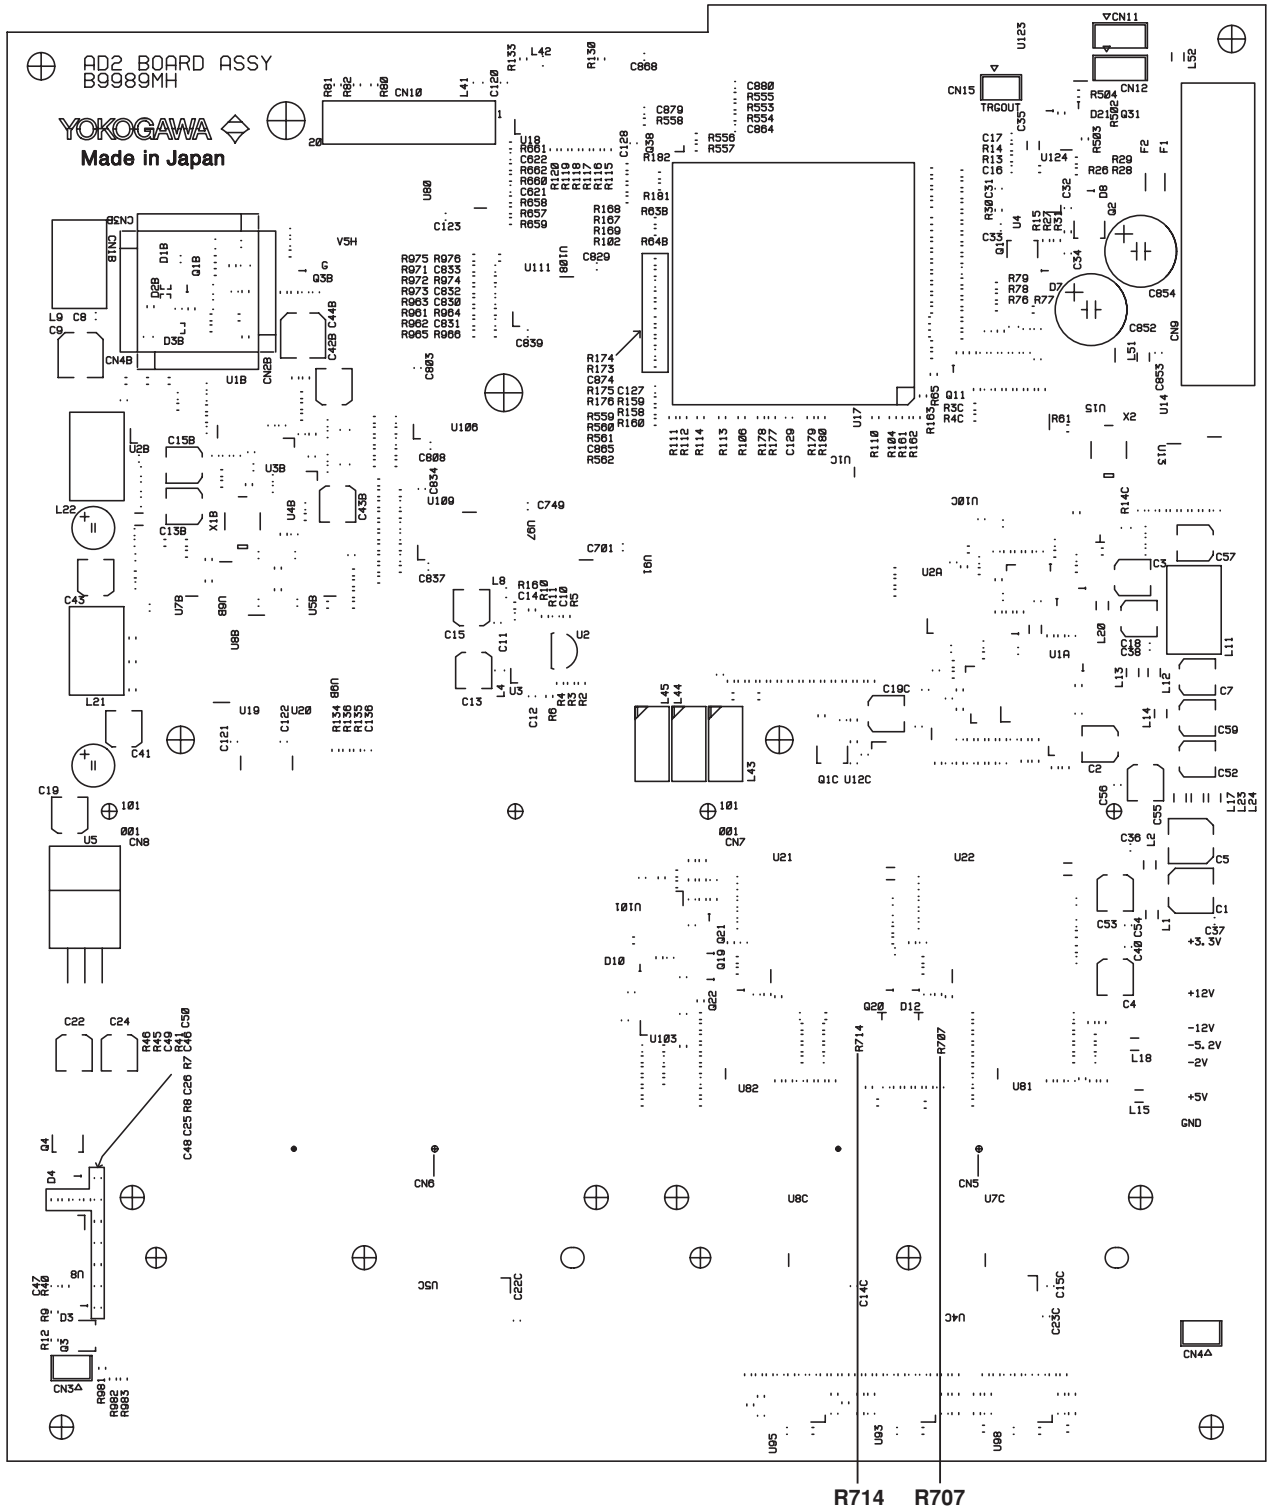
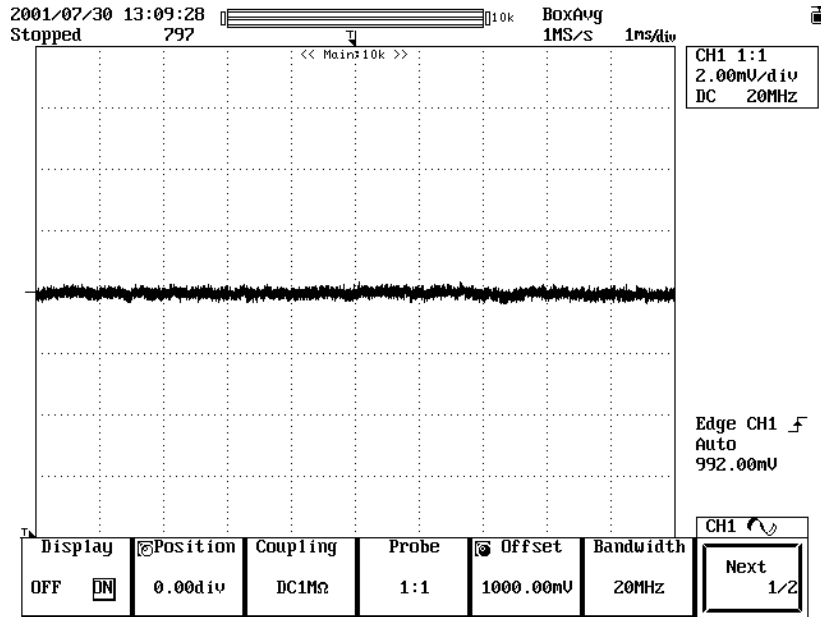

Figure 3.2 Adjustment Point Location Diagram (DL1720)
Figure 3.4 Observed Waveform
8. Adjust the variable resistor (refer to table 3.2, "Adjustment Point" and figure 3.2, 3.3, "Adjustment Point Location Diagram") corresponding to each channel so that the DC waveform fits within $1\text{ V} \pm 1\text{ mV}$ as shown in figure 3.4, "Observed Waveform."